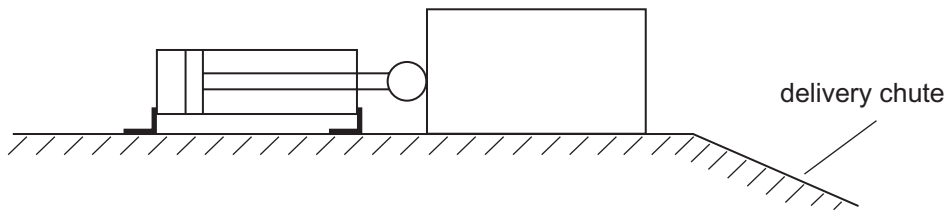
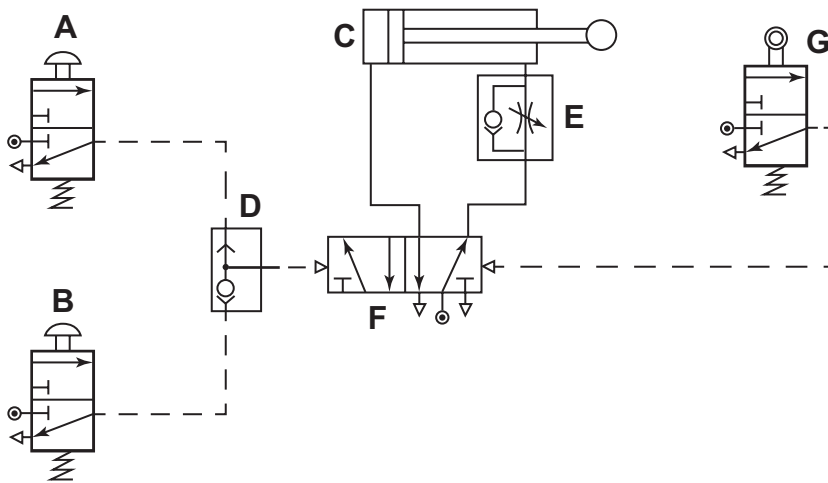
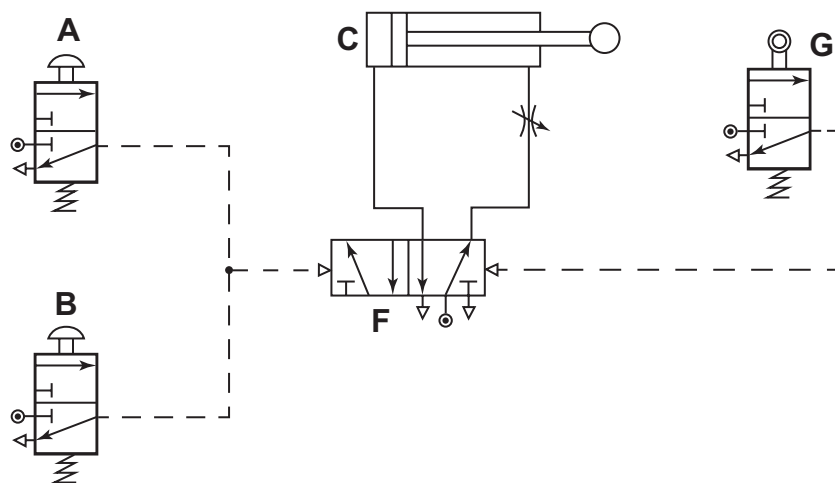

Fig. 2
Fig. 3
Fig. 4
- (c) Fig. 2 shows a pneumatic cylinder that is used to push heavy boxes onto a delivery chute.
Fig. 3 shows the pneumatic circuit to control the cylinder in Fig. 2.
(iii) Explain the purpose of valve **E** in **Fig. 3**.
Error 1: Valve **D** was left out as shown in **Fig. 4**.
(Compare with **Fig. 3**).
Error 2: The valve shown below was fitted in **Fig. 4** instead of valve **E**, as shown in **Fig. 3**.